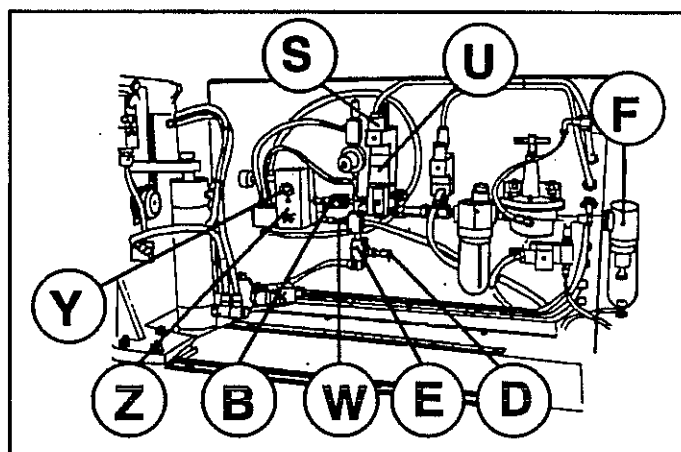

Fig.6.17
At the beginning of the cutting cycle, firstly the presser descends then the blade rises and only when pressure in the presser-blade synchronous circuit has reached the set measure the blade will start to cut. Once the cut is over, the blade is lowered and the the presser lifts. If this cutting sequence does not come about, it means that the pneumatic synchronous circuit is out of tune. It is then necessary to adjust the descent of the presser in this way: remove the blade-guard sump of the left side and gain access to the pneumatic circuit. Unscrew the knob (D fig.6.17) of the flow regulator of the presser (E) descent in order to favor the descent of the same.
Replace the flow regulator (E fig.6.17)
Operate regulator (P) by means of knob (W fig.6.17)
All the operations regulating the lifting and lowering of the blade and the pressure beam must be carried out with the blade still, acting on the manual button (S) found on the solenoid valve (U fig.6.17), that allows tests of the pressure beam and blade movements. If the blade lifts too slowly or too quickly, adjust the flow regulator (B).
| The pressure switch for carriage start, has been set to a pressure lower than 6 bar | The saw blade carriage must start only after the presser has clamped the piece and the blade has lifted completely. Check the pressure of the manometer and re-set 6 bar by means of regulator (Y) of pressure switch(Z fig.6.17) |